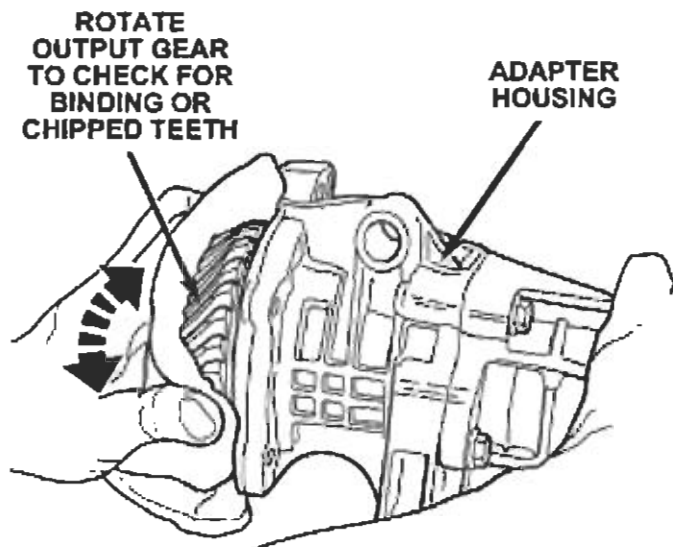

Figure 9
18. While holding the adapter housing, rotate the output gear and note its condition (Figure 9).